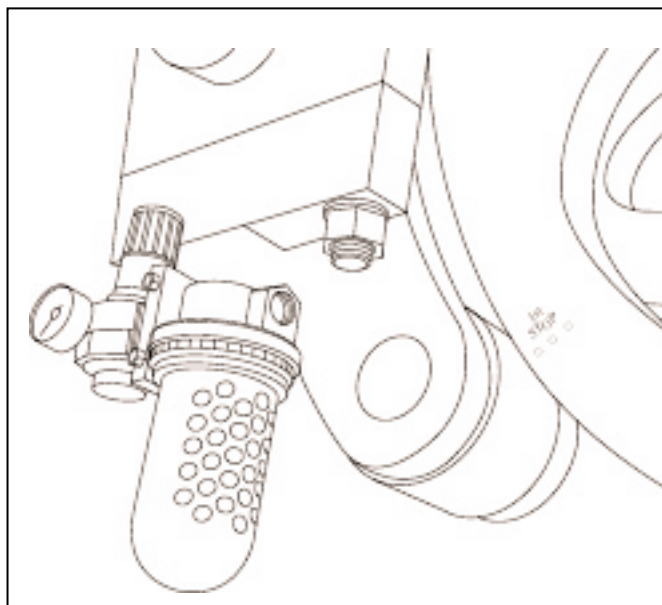

Figure 5.1 "FIRST STOP" (R.H. side of machine).
- 5.3.1 Run machine to "first stop" (feed box all the way forward). See figure 5.1.